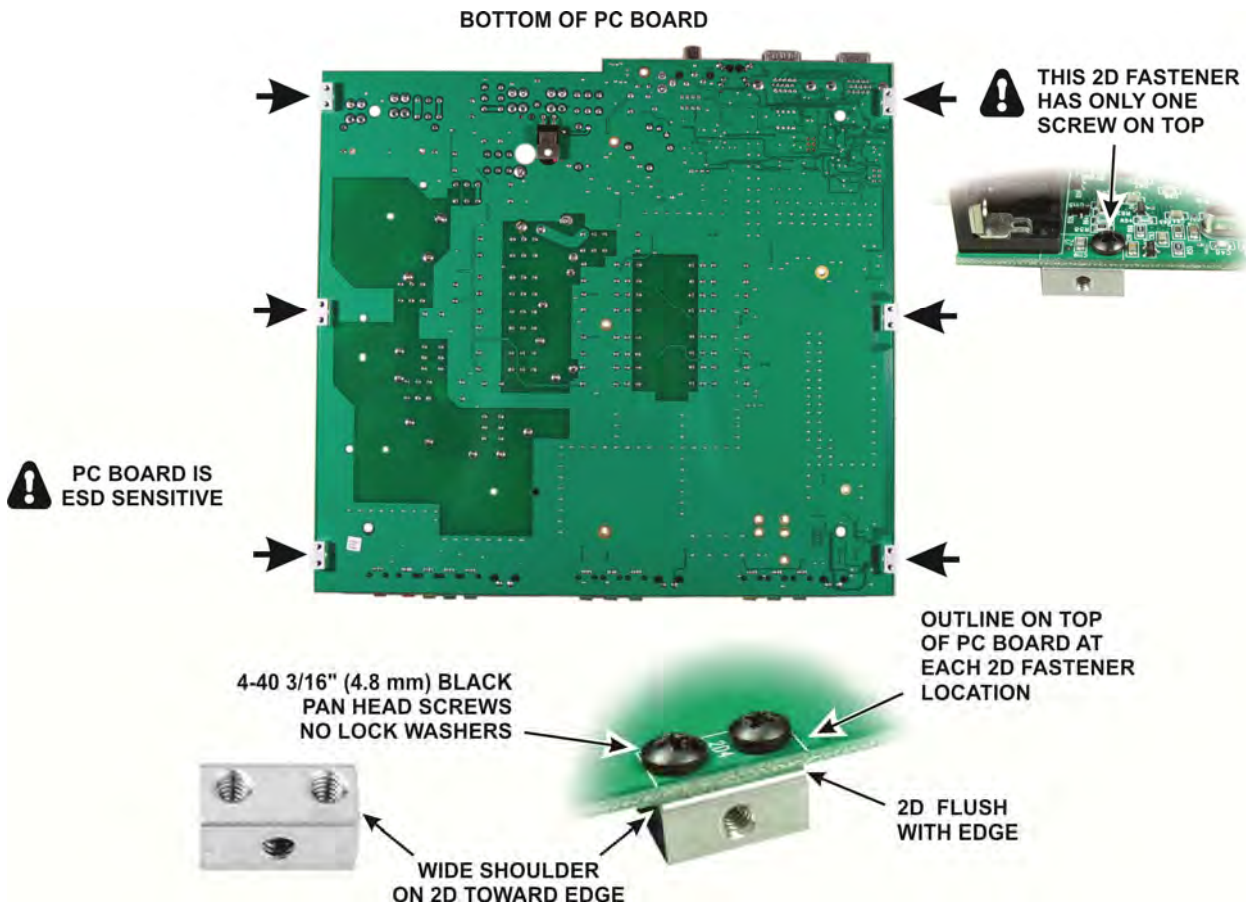

Figure 5. Installing the 2D Fasteners.
- Taking ESD precautions remove the printed circuit board from its ESD-safe envelope and install six 2-D fasteners as shown in Figure 5. Be careful not to disturb any of the inductors on the top side, especially the air wound coils, or the position of the resistor mounted on the bottom.
- The 11 screws along the sides of the pc board (Figure 5, page 15).